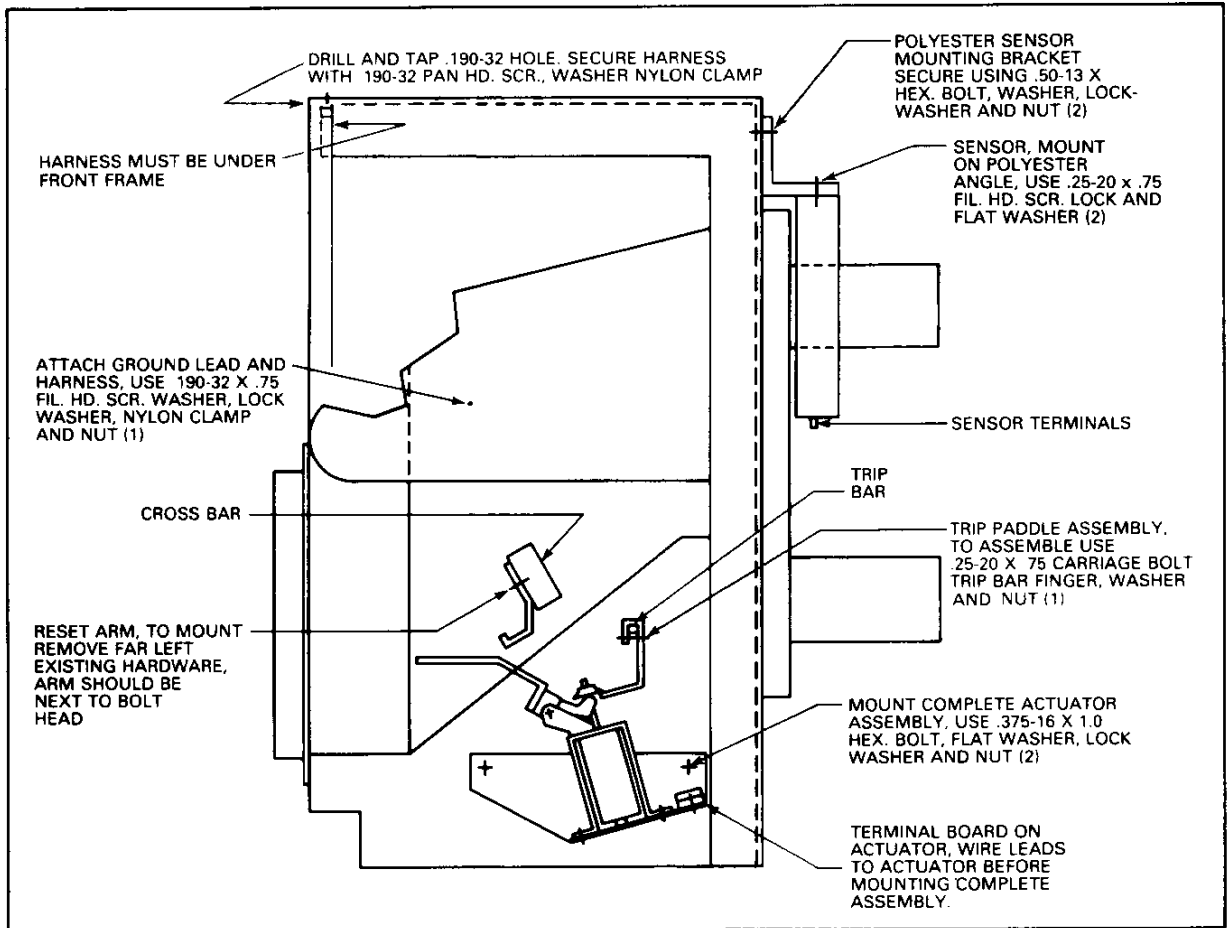

Fig. 6 Left Inside View of Breaker Looking Through from Right Side
1. Viewing the breaker from the left side, position and assemble trip paddle on breaker trip bar using .25-20 x .75 carriage bolt, trip bar finger, washer and nut. **Do not tighten this assembly**, see Figs. 6 and 7.
2. Attach the two actuator leads to the terminal board on the actuator, the leads should be to the left of the actuator housing. See Fig. 6.
5. Remove the finger clusters from the top studs attach the polyester sensor mounting angle to the back of the breaker utilizing the existing holes on the rear frame. Secure with .50-13 x 1.5 hex bolt, washer, lockwasher and nut, Fig. 6.
6. Mount the sensors on the polyester angle, see Fig. 6. Use .25-20 x .75 fil. hd. scr. lock and flat washers (2).
8. Bring the amptector end of the harness up towards the front of the breaker. Estimate the amount of harness required for attaching to the retaining bar (steps 9 and 10) and the ground connection, Fig. 6.
10. Directly downward about five inches from the retainer bar and to the right you will locate a .190 hole on the side frame, Fig. 6. Attach both the green colored lead and the harness at this point using .190-32 x .75 fil. hd. scr. nylon clamp washer and nut. This now grounds the sensor star point.
14. Drill and tap a .190-32 hole at the top of the right hand side front frame, See Fig. 6, using a nylon clamp around harness secure with .190-32 pan hd. scr. washer, lockwasher.